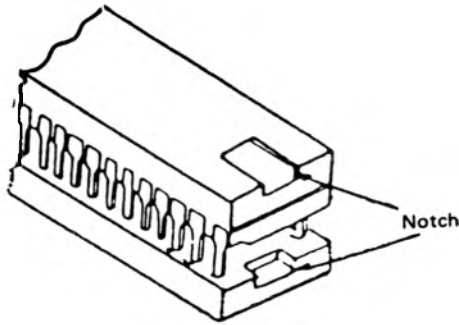

Figure 9
11. To install the new ICs make sure that the notch in the IC is aligned with the notch in the socket as shown in Figure 9. Carefully insert the IC into the socket making sure that all of the pins on the IC enter their respective holes in the socket.